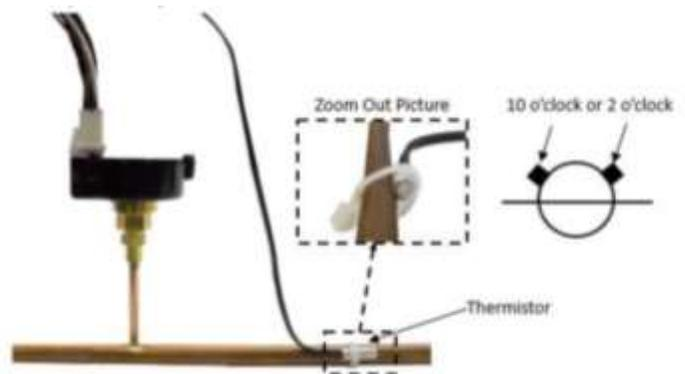

Figure 16 - Thermistor installation at evaporator outlet
10. Install the thermistor at the outlet of the evaporator and close to the access fitting using a zip tie, as shown below in Figure 16. The thermistor should be located at either the 10 o'clock or 2 o'clock position only.